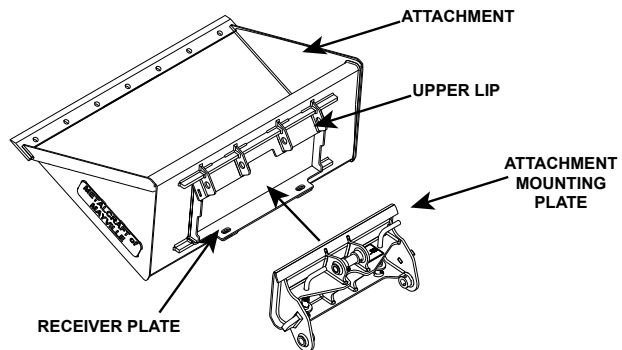

Figure 4-19. Attachment Installation
4. Position the attachment mounting plate into the upper lip of the attachment receiver plate. See Figure 4-19.